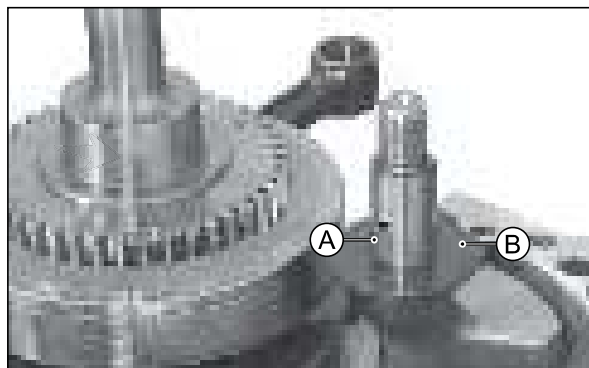

Fig. 3.151
- Remove the wood ruff key (A) from the balancer shaft assembly. (Fig. 3.151)
- Take out the retainer spring (B) from the balancer shaft assembly. (Fig. 3.151)